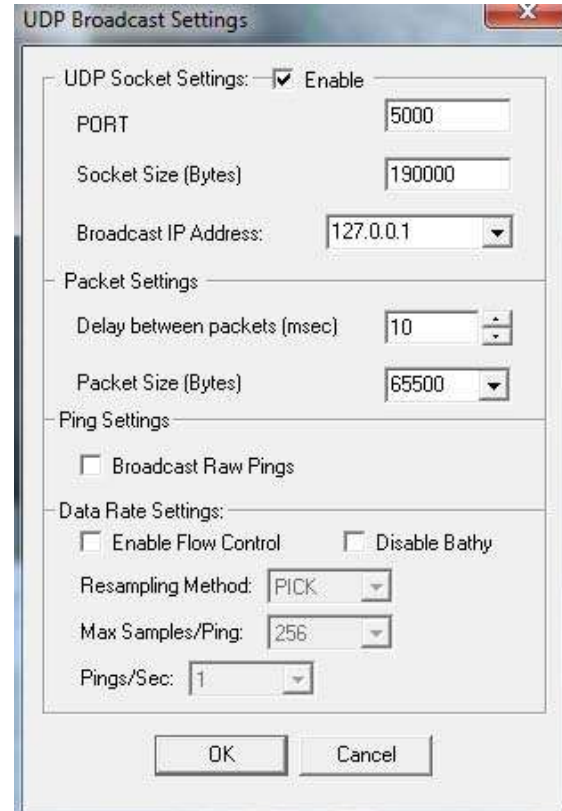

Figure 55. GeoDAS UDP Broadcast Settings
3. Set up UDP Broadcasting (Figure 55). Check Enable. Set the port to 5000, and select the appropriate broadcast IP address. If SAMM and GeoDAS are running on the same computer, choose 127.0.0.1, if they are on separate computers, choose to broadcast on the IP to which both computers are connected. Click OK.